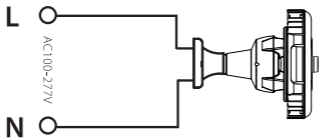

Fig 2
**Step: 2** Make sure the Alternating Current (AC) wires connect to the socket directly. Screw the Lightcloud lamp into the corresponding socket as shown in Figure 2. Attach retrofit label to luminaire (included in box). Plug the Lightcloud module securely into the auxiliary port on lamp as shown in Figure 3